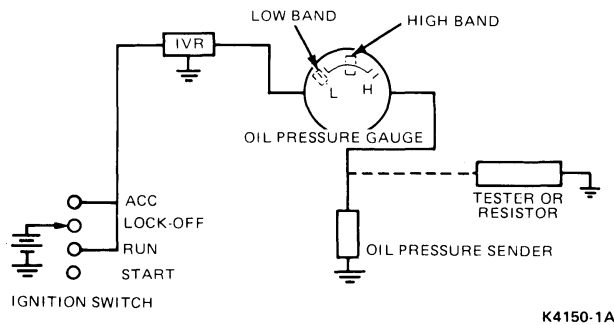

FIG. 1 Instrument Voltage Regulator and Gauge System Test
1. Disconnect connector for oil pressure sender and connect the matching terminals on the tester (Fig. 1, 2 and 3).
within the designated white band of the graphics for the oil pressure test function as shown on the tester after two minutes (Fig. 1). If the center line of the pointer registers in the white band the oil pressure indicating system is operating properly and replacement of the oil pressure sending unit is necessary. If the pointer line falls outside the low band, replace the gauge. If the pointer centerline falls outside the HIGH band, replace the IVR and repeat the test. If the centerline is still outside the HIGH band, replace the gauge.